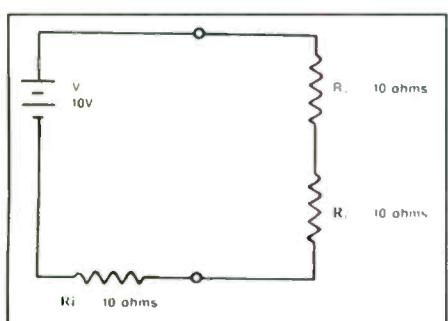

Figure 1. In this circuit, what value of R1 will result in the greatest power dissipation?
5. In the circuit of Figure 1, what value of R1 will allow it to receive maximum power from the supply?